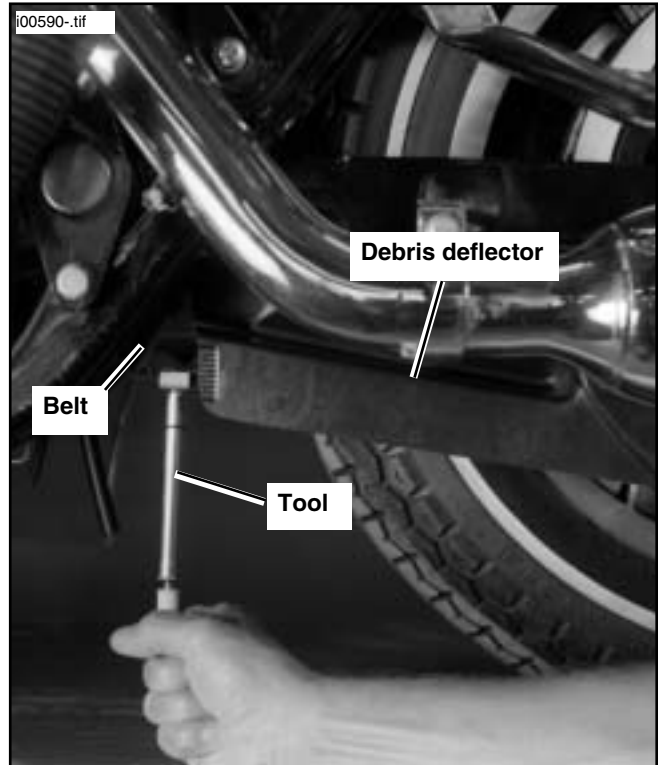

Figure 1. Measuring Belt Deflection
2. Position saddle, on upper end of tool, against the lower bottom strand of the belt just in front of the debris deflector. See Figure 1.
4. Push end of tool directly upward until small O-ring just touches the bottom of the tool body. This means 10 lbs of force has been applied to the belt. See Figures 1 and 2. Note reading or mark location on debris deflector as described above in Step 3.